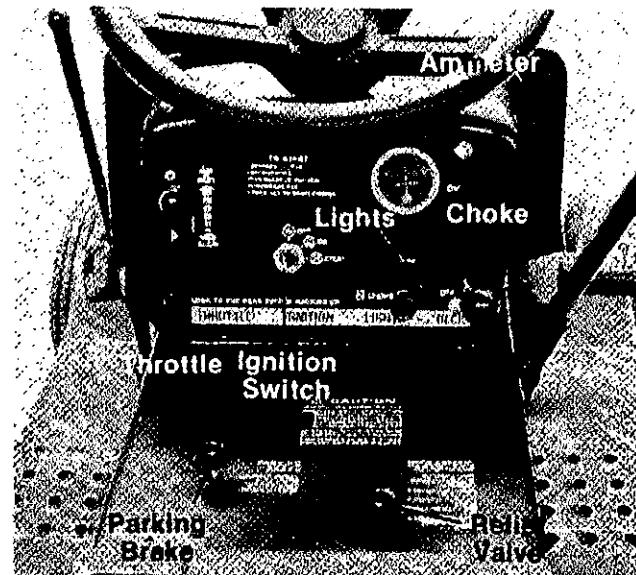

FIGURE 9.
The ignition switch is located in the center of the dashboard. Turn the key to the START position to start the engine. When the engine is running leave the key in the ON position. To stop the engine turn the key to the OFF position. (See figure 9.)
The throttle control is located on the left side of the dashboard and is used to regulate the engine speed. (See figure 9.) The engine should be operated from $\frac{3}{4}$ to full throttle (FAST) when operating any equipment that uses the tractor engine as a source of power such as the mowing deck, snow thrower or rotary tiller. (See figure 9.)
The choke control is located on the right side of the dashboard and is operated manually. Details for the choke operation are covered in the Engine Operating and Maintenance Instructions Manual. (See figure 9.)
The head lamps are operated by pushing the light switch located on the dashboard. The head lamps will only operate when the engine is running. (See figure 9.)
The maximum charging rate is 3 amps. The head lamps operate directly from the engine alternator and do not register on the ammeter. (See figure 9.)
To set the parking brake, depress the clutch-brake pedal and pull up the parking brake knob. It will stay in the raised position. To release the parking brake, depress and release the clutch-brake pedal. (See figures 9 and 12.)
To move the riding mower without the engine running, pull up the relief valve and lock it in the raised position. This allows the rear wheels to roll. (See figure 9.)
1. Unscrew the parking brake and relief valve knobs. (See figure 9.)